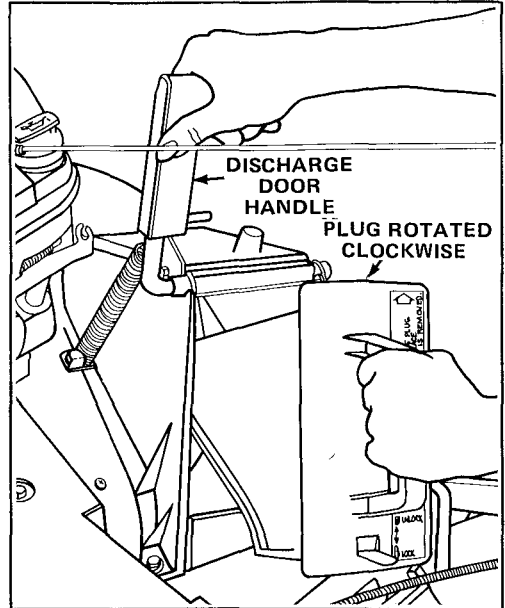

Figure 3
1. Open the discharge door by pulling forward on the handle and moving it rearwards (Fig. 3). Hold the discharge door handle to prevent the spring-loaded door from closing while inserting the plug.
ing it (Fig. 3). Make sure the arrow on the plug decal is pointing upwards.